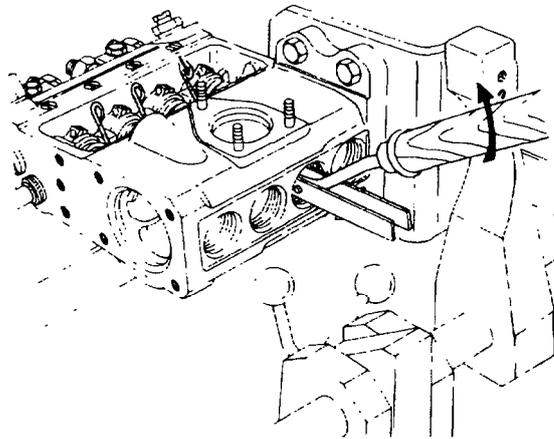

Figure 79 Installing the Tappet Holders
- r. Using the return spring compression tool (Table 3, Serial 26), slowly compress each plunger return spring while aligning the plunger control arms with the slots in the control sleeve. When each spring is fully compressed, install the tappet holders, ensuring each tappet holder is positively installed into the hole in the tappet and slowly release the compression tool (Figure 79).